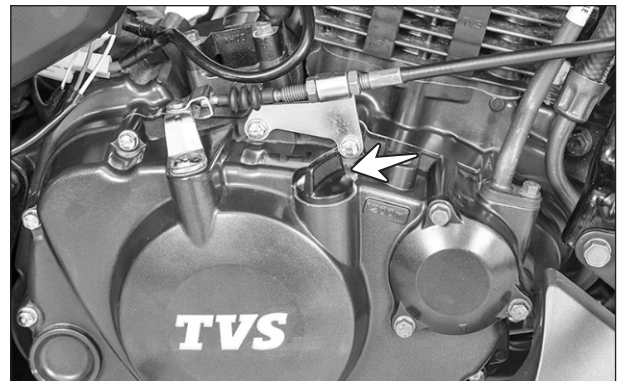

Fig. 2.30
- Remove the gauge oil level to facilitate easy draining of oil. (Fig. 2.30)